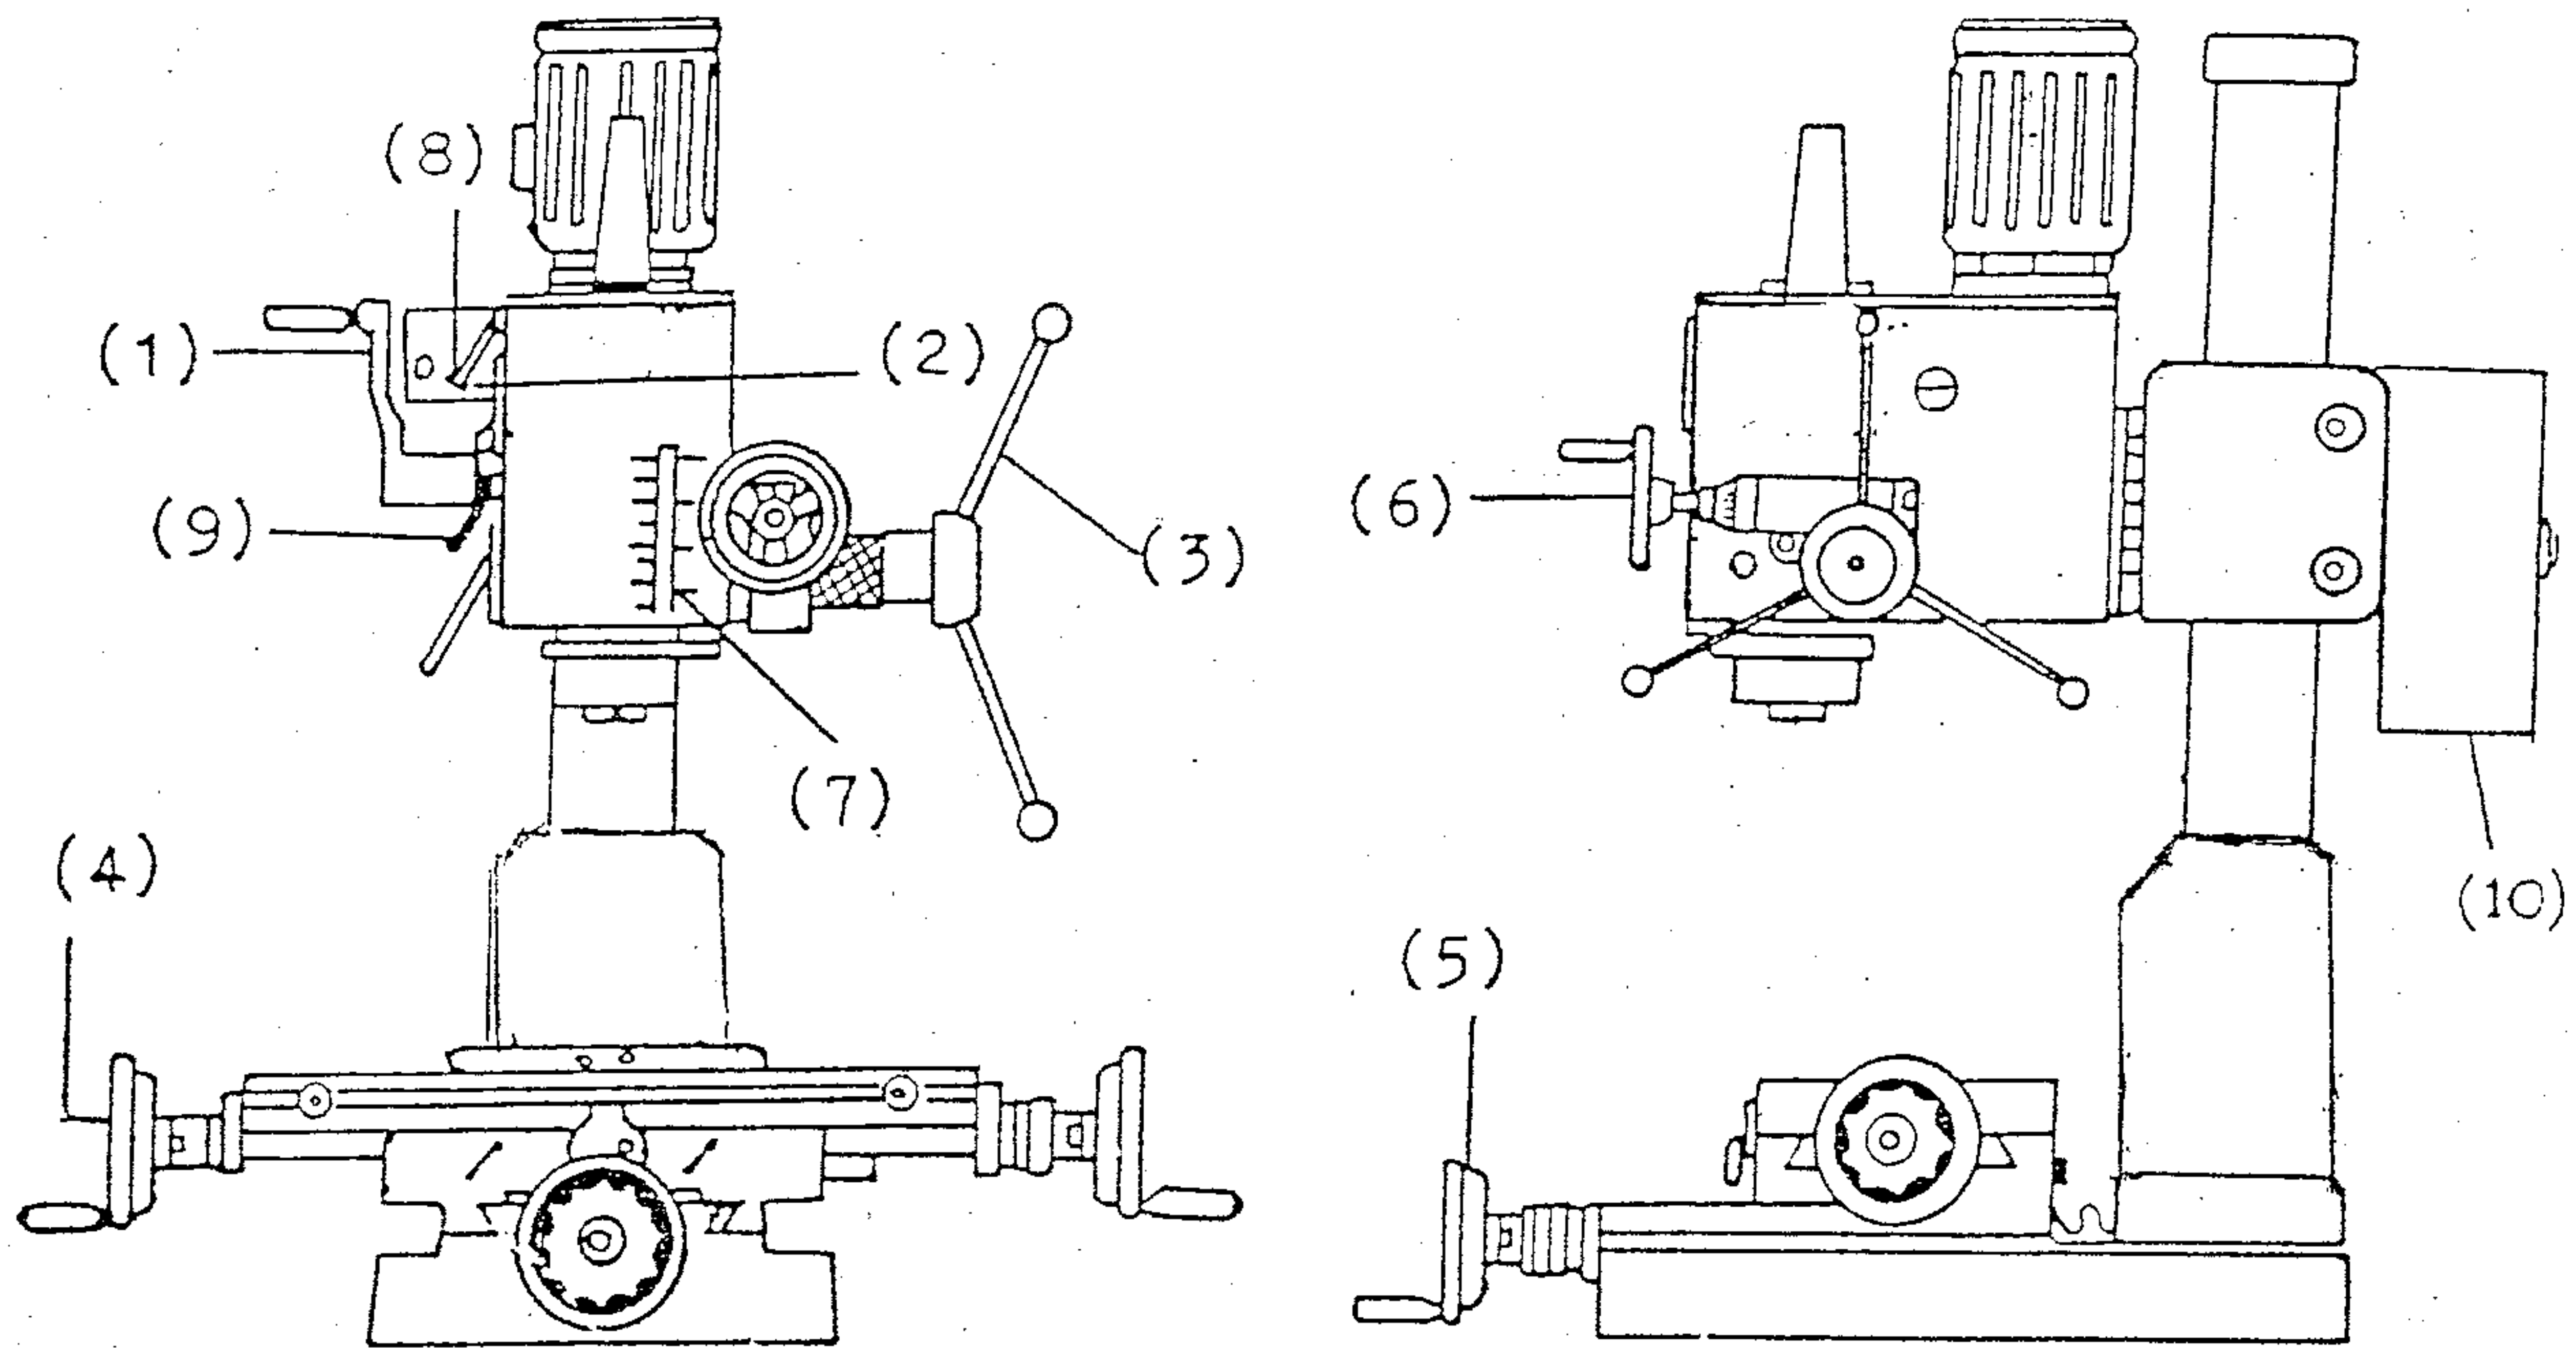

FIG 2
- (1) THE MACHINE HAS BEEN COATED WITH A HEAVY GREASE TO PROTECT IT IN SHIPPING. THIS COATING SHOULD BE COMPLETELY REMOVED BEFORE OPERATING THE MACHINE. COMMERCIAL DEGREASER, KEROSENE OR SIMILAR SOLVENT MAY BE USED TO REMOVE THE GREASE FROM THE MACHINE, BUT AVOID GETTING SOLVENT ON BELTS OR OTHER RUBBER PARTS.
- (2) AFTER CLEANING, COAT ALL BRIGHT WORK WITH A LIGHT LUBRICANT. LUBRICATED ALL POINTS AS FIG.2.
- (3) LUBRICATING POINTS AS ARROWS INDICATED.
8. USE OF MAIN MACHINE PARTS (SEE FIG.2)